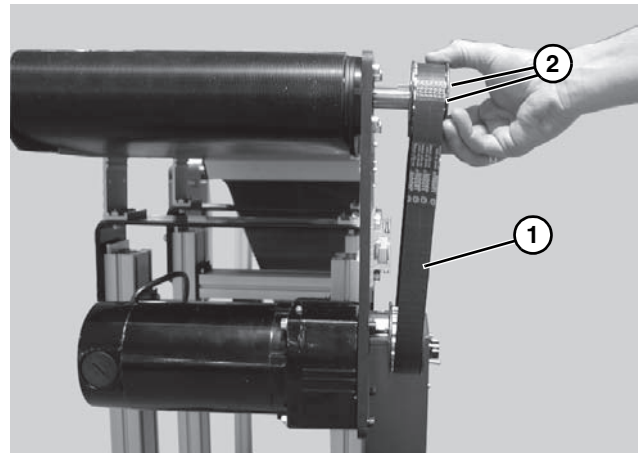

Figure 15
3. Remove timing belt (Figure 15, item 1).
*If timing belt does not slide over pulley flange, loosen driven pulley taper-lock screws (Figure 15, item 2) and remove pulley with belt (Figure 15, item 1). For re-installation, see steps 7 thru 9 beginning on page 8.*